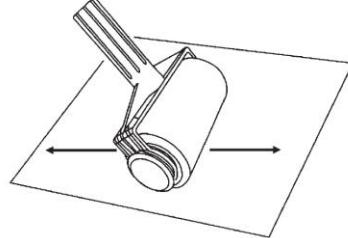

Fig. 2
5. You now need to 'charge' the Paint roller. Do this by rolling it on old newspaper for 2-3 minutes, until paint is visible all over the roller (Fig. 2).